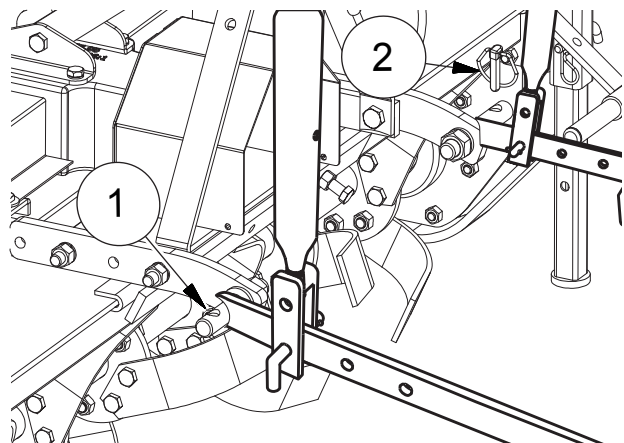

FIG. 13
- Move the power-lift bars to the lower hitches ("Fig. 13"). Insert the attachment pins (1). Fasten the pins with the trigger pins (2) part of standard equipment.